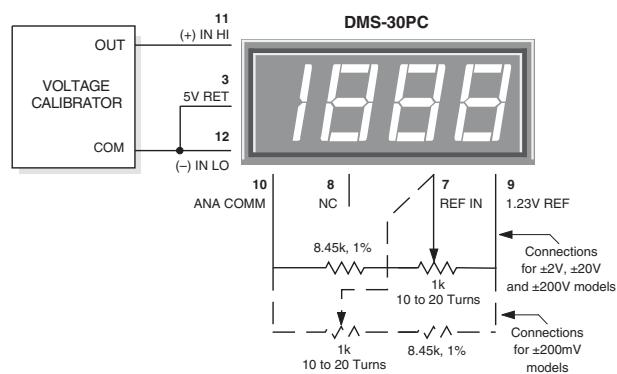

Figure 10. External Gain Adjustment
**6. Gain Adjust:** There is a gain-adjust potentiometer on the back of each meter. It has approximately  $\pm 50$  counts ( $\pm 2.5\%$ ) of adjustment range. Since these devices essentially have no zero/offset errors, a gain adjustment is effectively an overall accuracy adjustment. Though they may be performed at any point (except zero), accuracy adjustments are most effective when performed with higher level input signals. The circuit shown in Figure 10 provides  $\pm 10\%$  range of adjustment.
8. **External Gain Adjustment:** Connect REFERENCE OUT (pin 8) to REFERENCE IN (pin 7) for normal, factory calibrated, operation. Use the +1.23V REFERENCE OUT (pin 9) for applications needing external gain adjustment. Figure 10 shows the wiring configuration for each model. Calibration is performed with a precise, near-full-scale, input voltage.